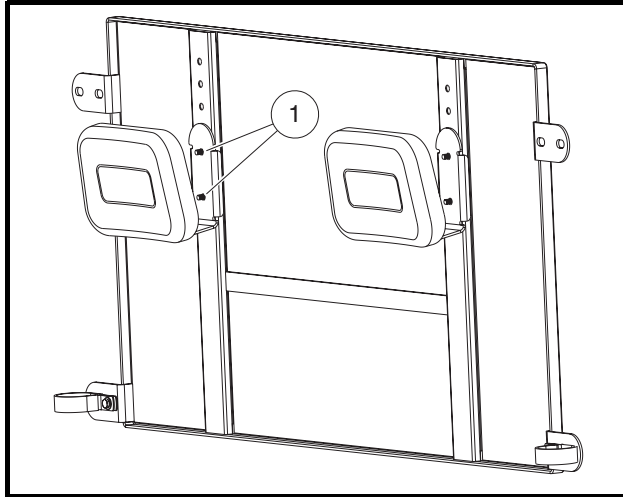

Figure 8 Adjust Headrests
1. Remove the headrest hardware (1) (**Figure 8**).
3. Install the headrest hardware (1).